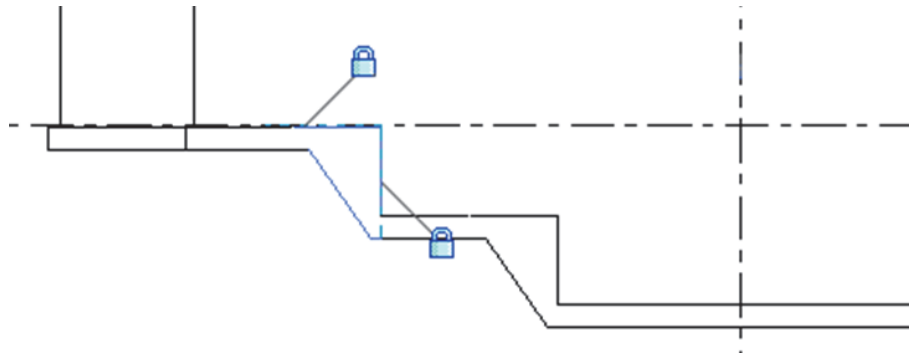

Figure 7–36
5. Which command do you use to add a custom footing type under a wall such as the ones shown in Figure 7–36?